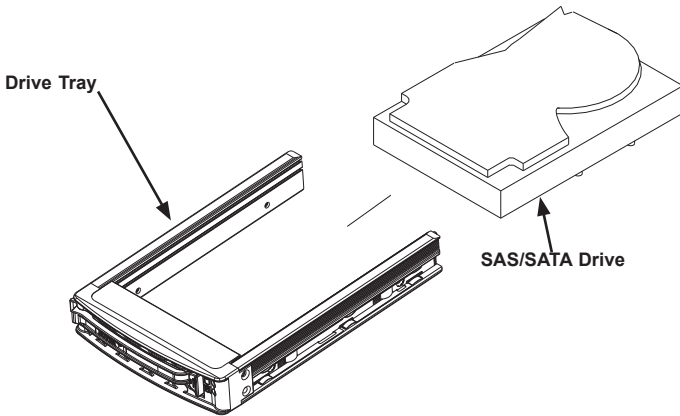

Figure 5-10. Installing the Hard Drive
3. Place a hard drive in the drive tray (Figure 5-10).